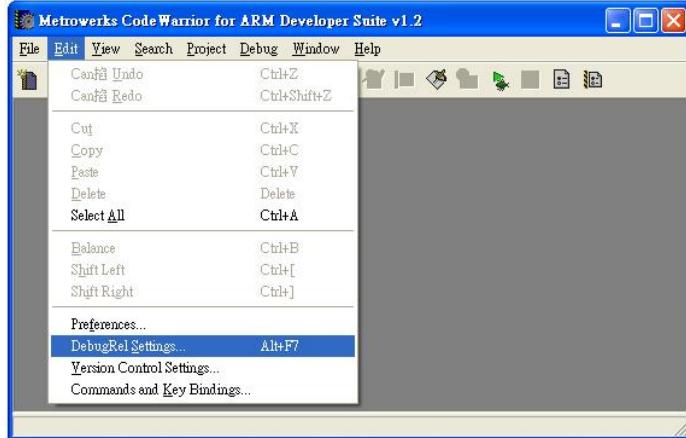
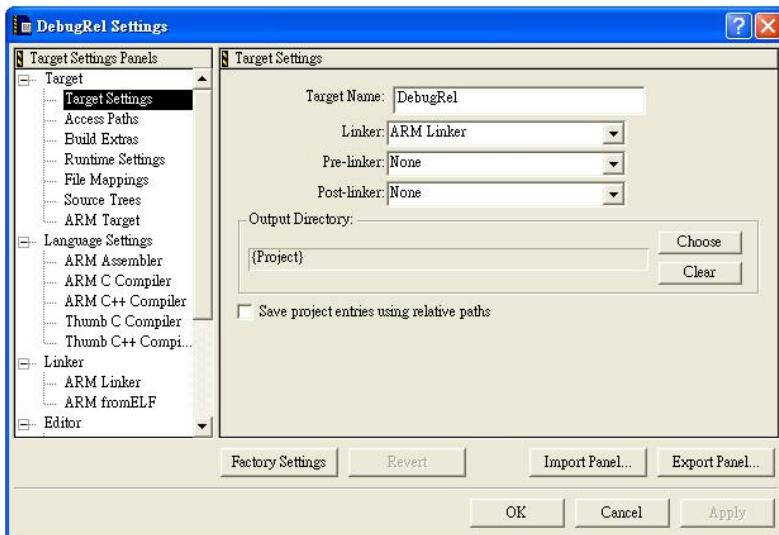

Figure 13. Select DebugRel Settings
Figure 15. DebugRel Settings.
2. Select **Edit→DebugRel Settings… (or Alt + F7)**, as shown in Figure 13. The name of this menu item (Debug, Release, or DebugRel) changes depending on the name of the currently selected **Build Target**. The CodeWarrior IDE displays the **DebugRel Settings Panel** (Figure 15). All the target-specific settings are accessible through configuration panels